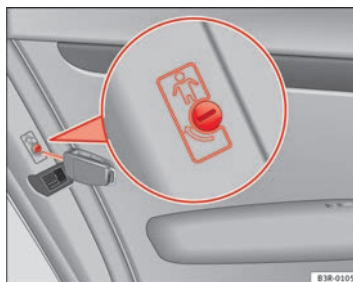

Fig. 78 Childproof lock on the rear doors
- Turn the key in the direction of the arrow ⇒ Fig. 78.